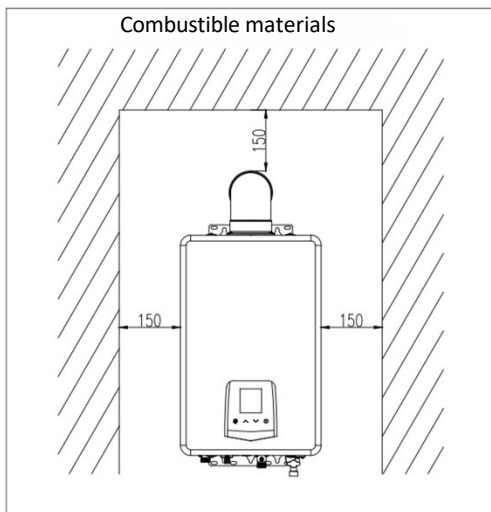

Fig. 7 (Unité : mm)
- The gas water heater must be kept away from combustible materials, at a minimum distance indicated in Fig. 7.
(4) The distance between the flue pipe and combustible materials must be greater than 150 mm. If the flue pipe must pass through combustible materials or a wall, thermal protection material must be used to fill the flue pipe to a thickness greater than 20 mm. (See fig. 7)
(5) Do not put cement between the flue pipe and the wall to facilitate maintenance.
(6) The flue pipe must be securely fastened. The connection section can be covered with a self-adhesive sheet to prevent residual gases from returning to the room.
(2) The length of the flue pipe must be less than 3 m and the number of bends must not exceed 3 (one bend is equivalent to 1 m of straight pipe).
(3) The distance between the flue pipe and combustible materials must be greater than 150 mm. If the flue pipe must pass through combustible materials or a wall, thermal protection material must be used to pad the flue pipe with a thickness greater than 20 mm. (See Fig. 7)
(4) No cement should be used between the flue pipe and the wall to facilitate maintenance.
(5) The flue pipe must be securely fastened. The connection section can be covered with a self-adhesive sheet to prevent residual gases from returning to the room.
(6) The minimum permitted length for the flue pipe of this product is 320 mm. When the length of the flue pipe is between 320 and 750 mm, a restriction ring (φ 43 mm) must be used (type C12, C32, B22). Precautions for installing the flue pipe